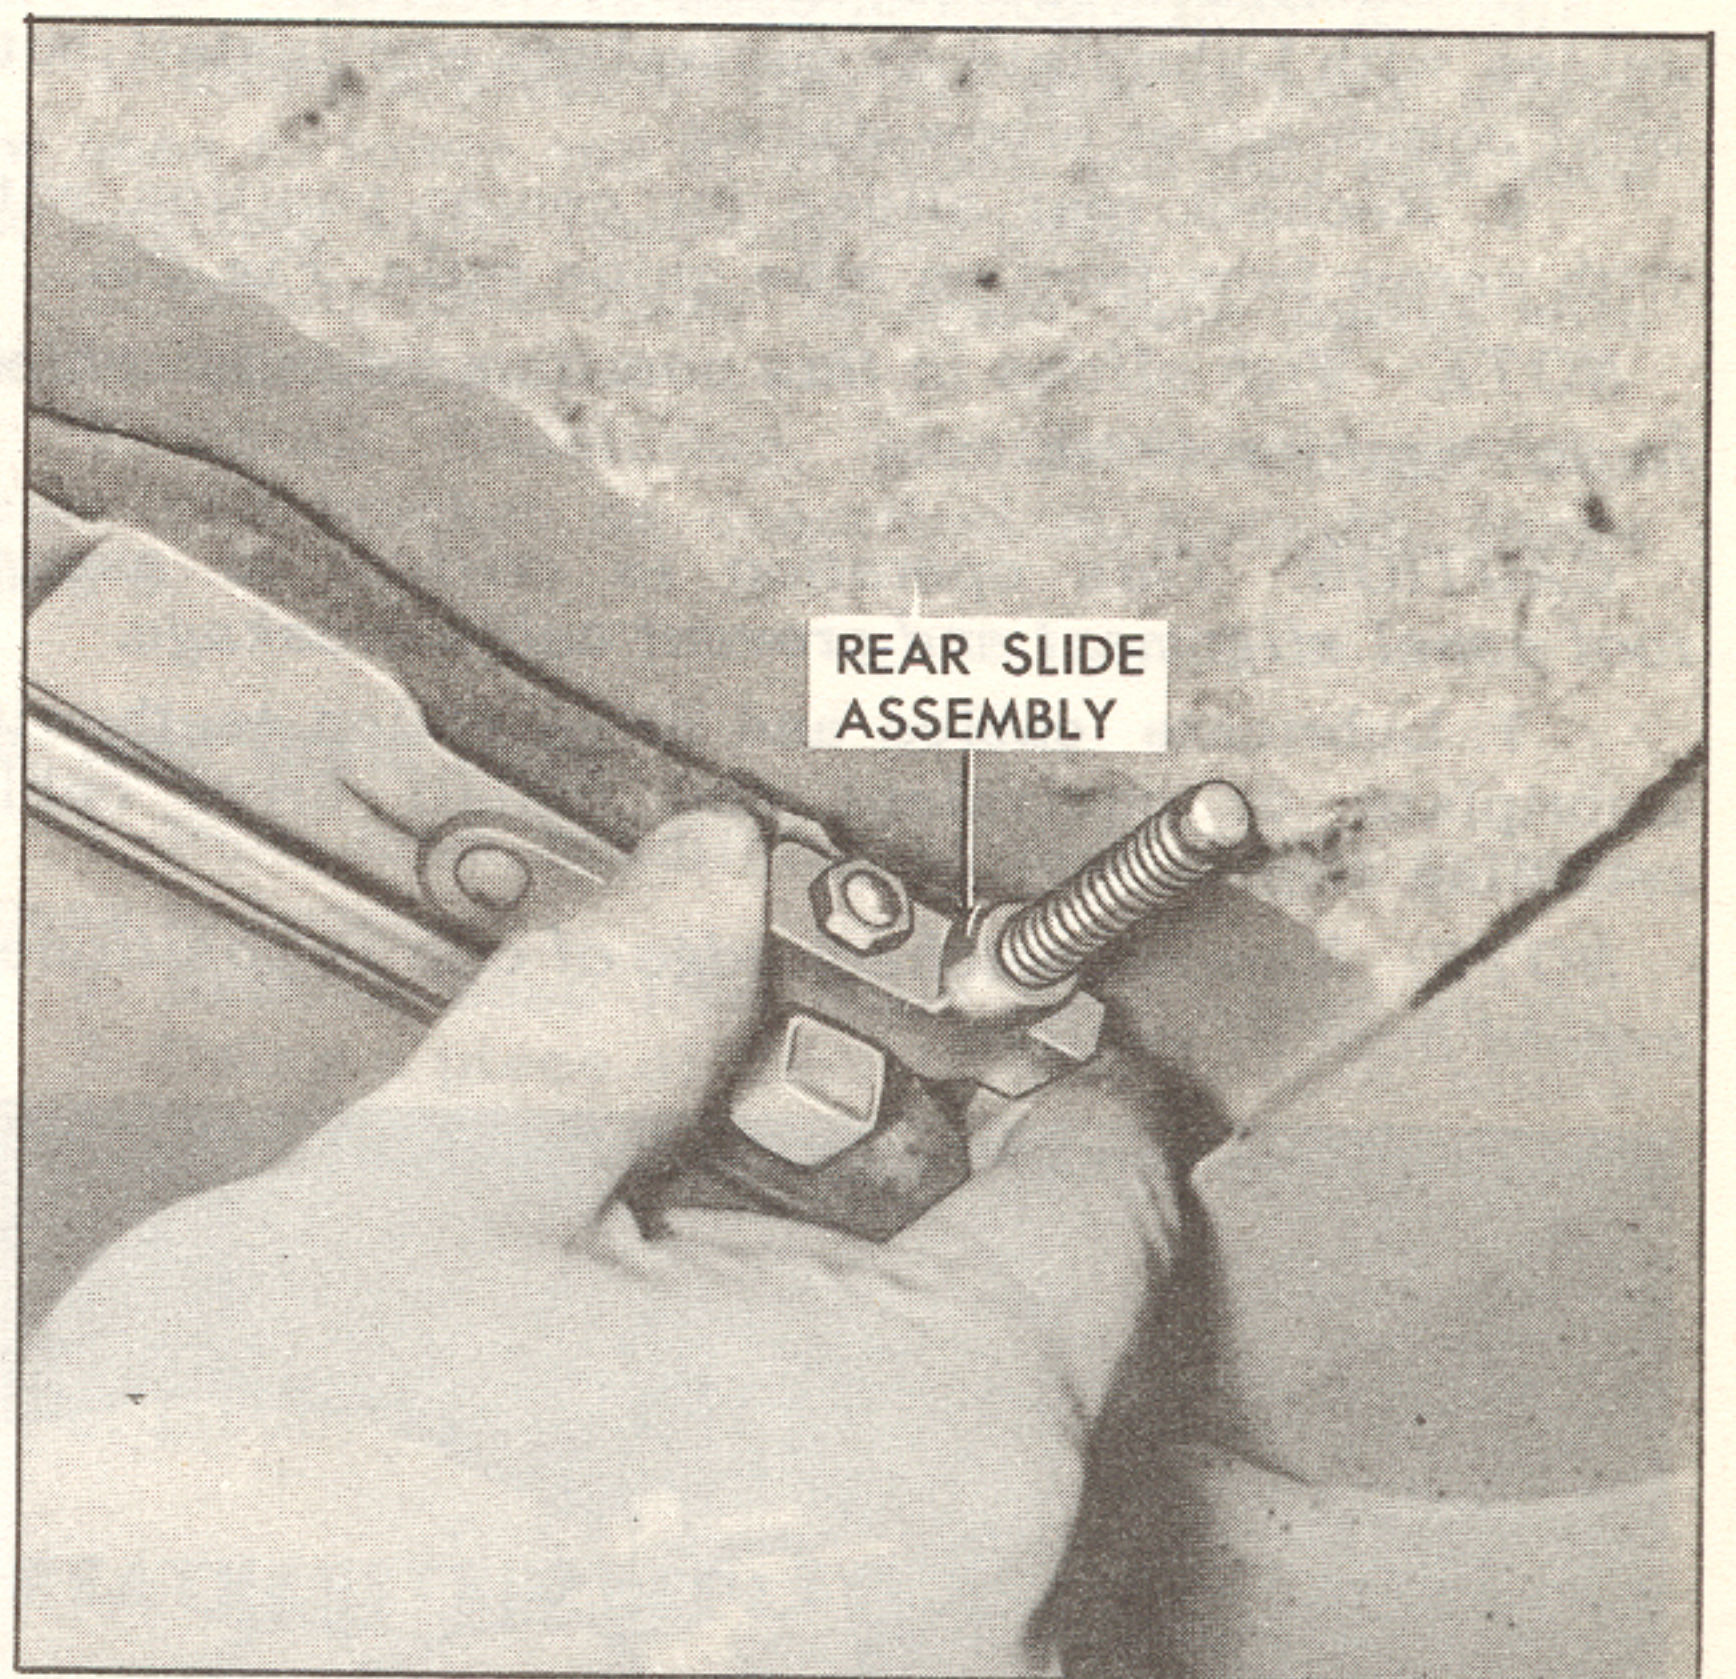

Fig. 19. Removing Rear Slide and Cable Assembly From Retainer
6. Pull each rear slide and cable assembly inboard and out of slide retainer hole in roof panel, Fig. 19.
5. Lift rear of roof panel upward and actuate control switch to position rear slides into alignment with holes on slide retainers on roof panel, Fig. 19.